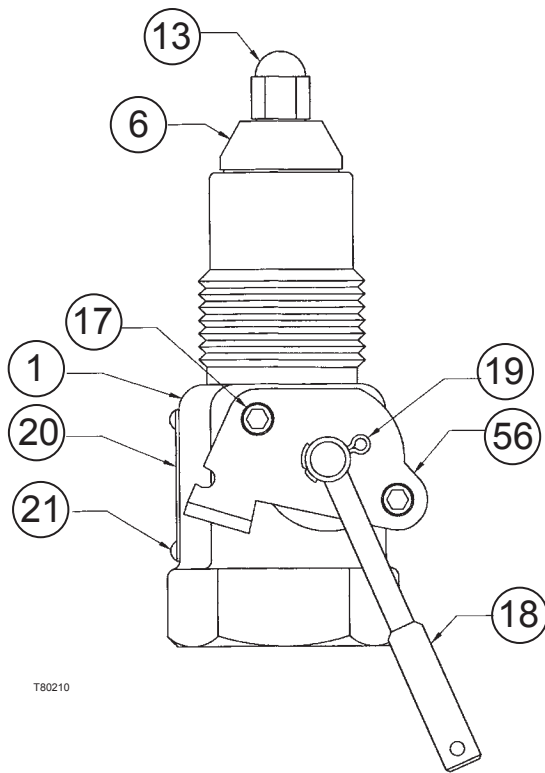
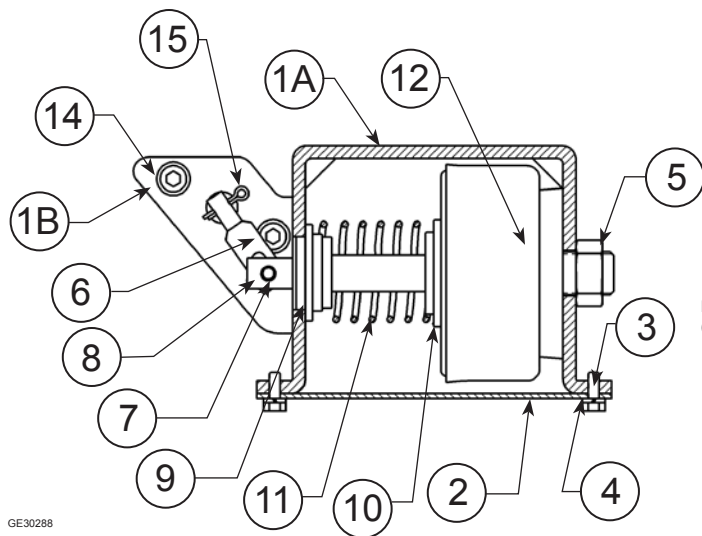

Figure 4. Type C407-10 Internal Valve Assembly
Figure 6. Type P631 Pneumatic Actuator
Type P631, (refer to Figure 4 for Type C407-10 Internal Valve and Figure 6 for Type P631), first remove the manual operating lever (key 18) and the cotter pin (key 19). Take off the cover plate (key 56) by removing the two cap screws (key 17). Place the Type P631 actuator on the valve. Insert the operating lever into the Type C407-10 stem with the cotter pin (key 19). Then secure Type P631 with the two cap screws (key 17), tightening them to 25 to 30 inch-pounds (2,8 or 3,5 N•m) torque.
Remove downstream pressure. There must be no downstream pressure in the Type C407-10 internal valve while installing the Type P389 air cylinder. To install the Type P389, (refer to Figures 4 and/or 7), first remove the manual operating lever (key 18). Take off the cover plate (key 56) by removing the cap screws (key 17). Place the Type P389 actuator on the valve and secure it with the two cap screws (key 17), tightening them to 25 to 30 inch-pounds (3 or 3,5 N•m) torque. Insert the operating lever (key 18) through the clevis assembly between the roller and the clevis pin. Secure the operating lever (key 18) to the Type C407-10 stem with the cotter pin (key 19). Loosen the clevis on the cylinder rod and adjust it so that there is some small movement of the operating lever before it begins to open the internal valve. Tighten the clevis nut to hold the clevis at this position. Connect the actuating pressure line tubing to the end of the cylinder. The operating lever should not rub on the side of the clevis.
Type P631 (Figure 6)